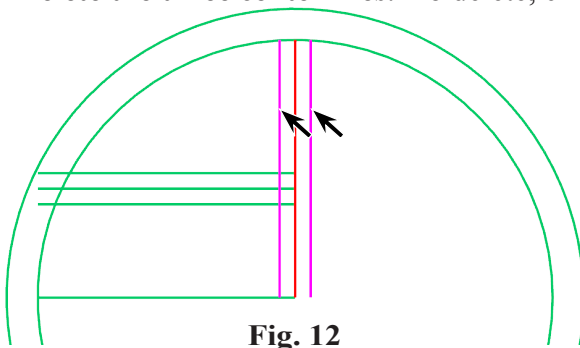

Fig. 12
Step 6. Click **Direction**  until (twice) bi-directional lines appear, **Fig. 12**.